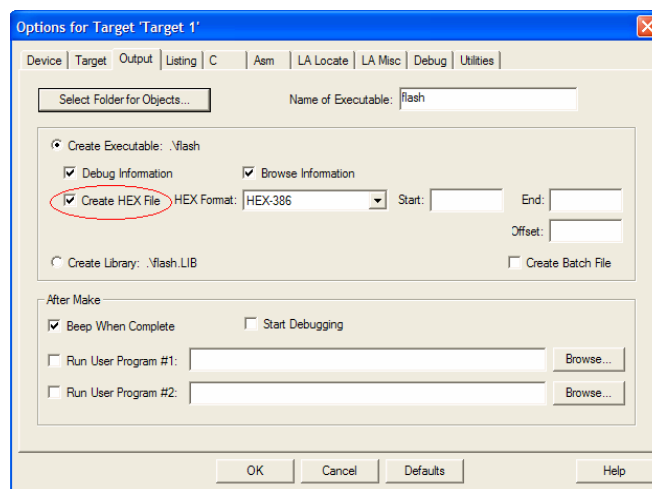

Figure 6
(2) Choose “Create HEX File” under Output tab so that you can get .hex file to download as figure 6.